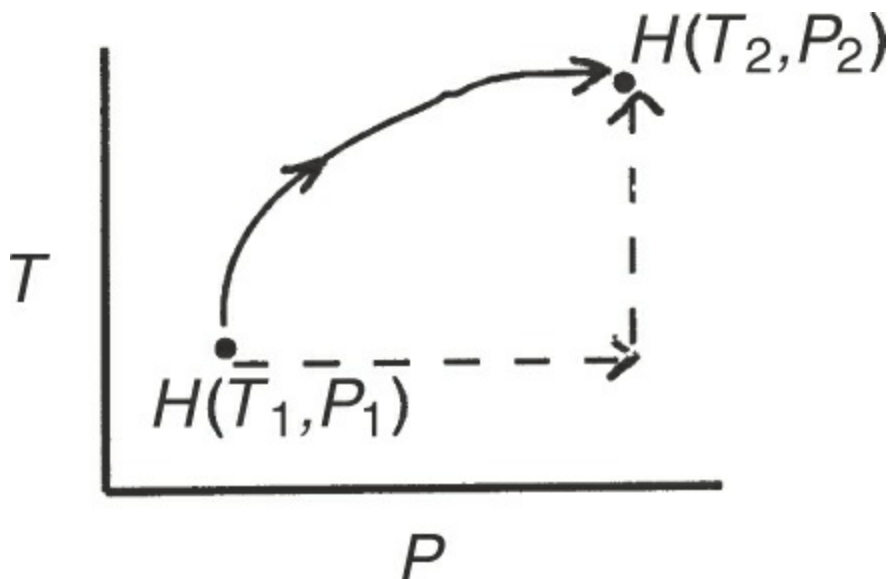

Figure SAT8.2.5P2
- Will the enthalpy change be greater along the path shown by the solid line or the path shown by the dashed line in Figure SAT8.2.5P2?